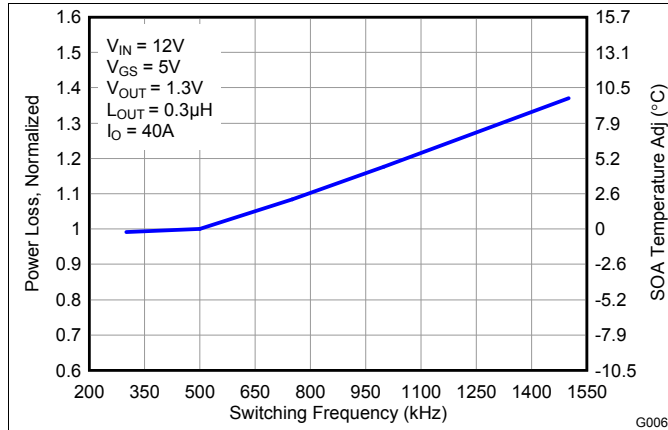

Figure 6. Normalized Power Loss vs Switching Frequency
- Normalized power loss for switching frequency  $\approx 1.11$  (Figure 6)
- SOA adjustment for switching frequency  $\approx 2.8^\circ\text{C}$  (Figure 6)